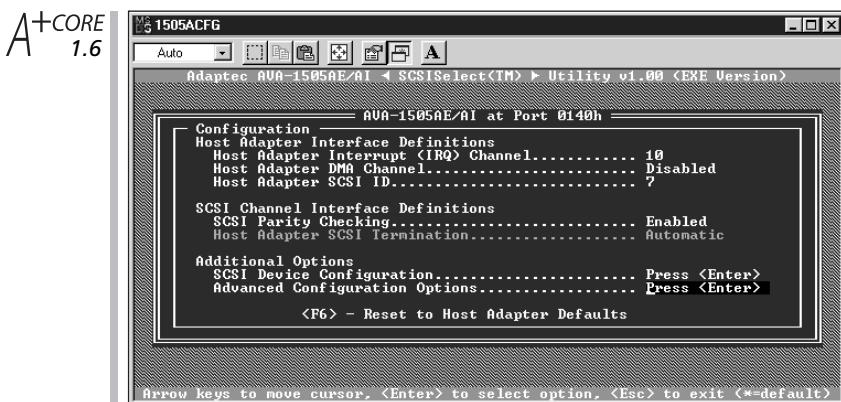

Figure 9-30 Setup software included with a SCSI host adapter is used to change SCSI BIOS settings on the card
- In most cases, the default settings for the host adapter are the correct ones, but you can change or verify these settings using the setup program on floppy disk. To use the setup program, boot the PC from the floppy disk included with the card. The disk boots the system (using DOS) and automatically executes the SCSI setup program. The two options on the opening menu are SCSI Disk Utilities (for installing a SCSI hard drive) and Configure the Host Adapter. Select **Configure the Host Adapter**. You see the host adapter configuration screen. See Figure 9-30.
- Verify the settings. Under the Advanced Configuration Options in Figure 9-30, you see two settings: enable or disable Plug and Play, and enable or disable SCAM support. Both are normally set to enable. Note in Figure 9-30 that the SCSI ID for the host adapter is 7 and that parity checking is enabled. After verifying settings, exit the setup program, remove the floppy disk, and reboot.